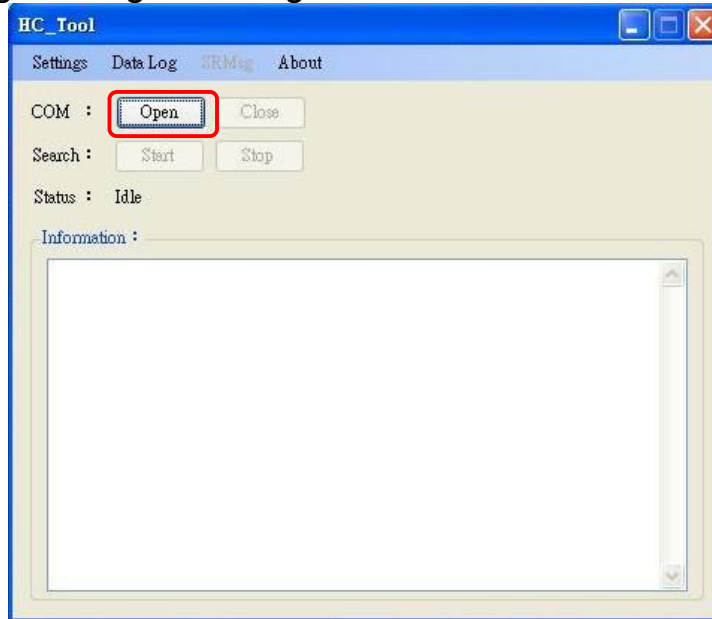

Figure 3-4: Click the “Open” button
Step4: Click the “Open” button to connect to the I-7567 module after closing “settings” like Figure 3-4.